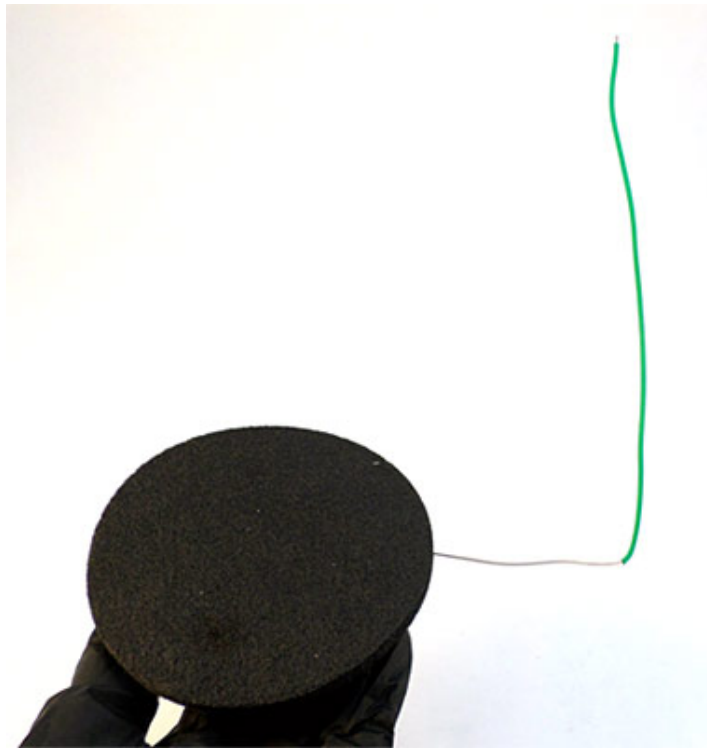

Figure 3. Insert the metal part of the green wire into the anode circle.
7. Straighten the metal part of the green wire and carefully insert it into the anode, as shown in Figure 3. Make sure the wire goes in straight and does not poke out on the top or bottom sides of the anode.